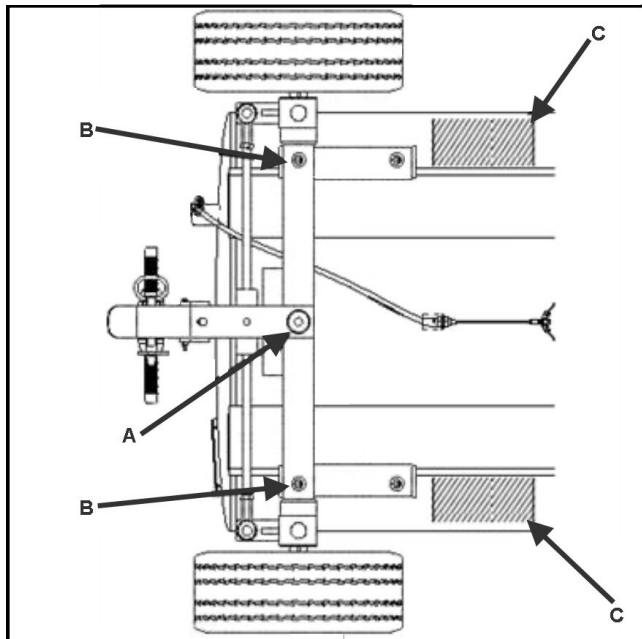

Figure 4-13 Lift Points
To remove the entire Rear Undercarriage assembly, the equipment must have the back end raised. See Section 4.12 and use figure 4-13 for these instructions.
- a. Raise equipment with suitable maintenance jack (see Figure 4-13 reference arrow A for jack placement) and allow for 2-inches of space between the wheels and the ground.
- b. Place cribbing under tank skids to safely support the equipment. (see Figure 4-13, reference points labeled with a C).